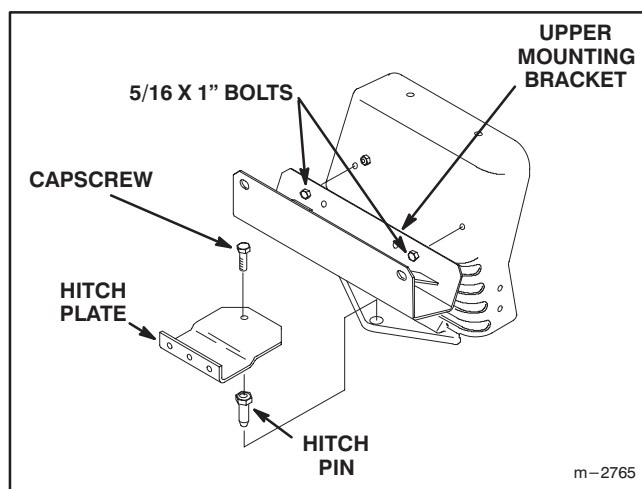

Figure 1
These units require the installation of an upper mounting bracket, hitch plate and hitch pin (Fig. 1) before attaching the grass catcher.
1. Attach upper mounting bracket outer holes to rear of tractor using (2) 5/16 x 1" bolts and locknuts supplied (Fig. 1).